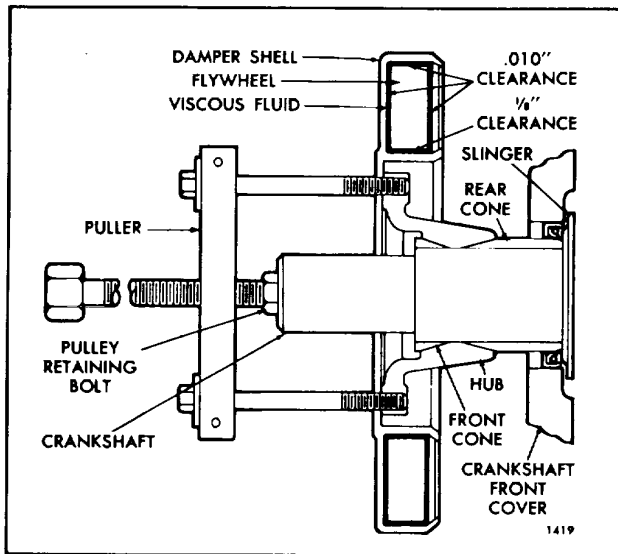

Fig. 2. Removing Vibration Damper Assembly (Viscous Type)
highly viscous fluid (Fig. 2). The very small clearance between the flywheel and the outer shell is filled with the fluid which causes the flywheel to be driven upon acceleration, and permits it to "freewheel" upon deceleration.
4. Reinstall the pulley crankshaft bolt and a puller as shown in Fig. 2 to loosen the outer cone wedged between the crankshaft and the damper hub. After loosening cone it may be "fished" from the inner diameter of the damper hub with two thin shank screwdrivers.